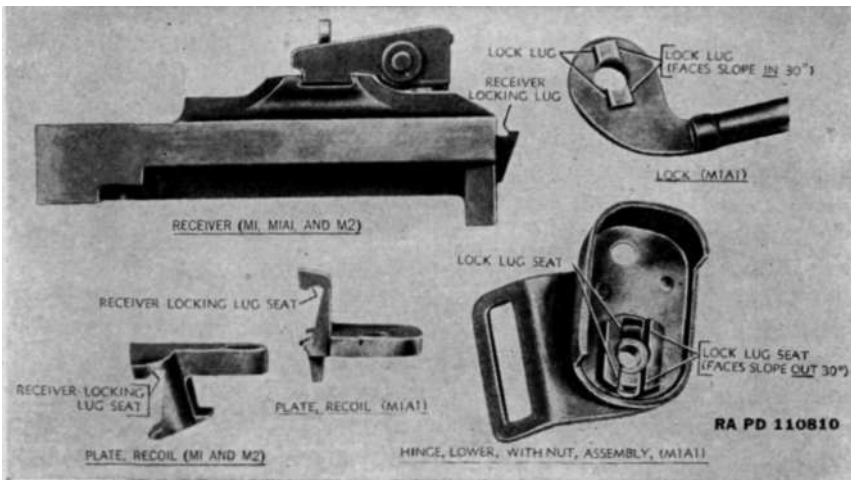

Figure 63. Important wearing surfaces.
(4) Inspect recoil plate cap for dents and fit with rear end of stock. Plate should lie flush at the edges with the stock and receiver.
(5) Inspect recoil plate for security and level seating on stock. Plate should seat level and firm on stock, held down by grip screw passing through plate and stock and into routed threads in grip. When assembled, the grip screw holds all three parts together. The hinge screw, when assembled and threaded into the nut, binds the parts still tighter, and prevents the grip from twisting.
(6) Inspect receiver locking lug seat in recoil plate for wear and burrs. (See fig. 63.) When assembling, the locking lug on receiver should cam smoothly into the seat, and be held there snugly without play or shake.
(7) Inspect grip screw for length and burred threads. Replace the $2\frac{3}{32}$ -inch hinge screw by a $2\frac{3}{4}$ -inch screw. If screw has not been replaced, deepen grip screw hole to a total depth of 1.125 inches with a No. 21 drill (diameter 0.159 inch). Inspect routed threads in grip for wear and stripping. Screw should turn in snugly to retain recoil plate and grip. If screw is loose, routed threads will eventually strip out and grip twist loose.
(8) Inspect grip spring washer for deformation. Spacer should fit in hole in lock on lower bar, when assembled.
(9) Inspect hinge screw spacer for deformation. Spacer should fit in hole in lock on lower bar, when assembled.
(10) Inspect locking nut for looseness in lower hinge shell. Inspect shell for deformation. Inspect sling eyelet for looseness on hinge shell.
(See fig. 63.) (Nut is staked or spot-welded in shell, and eyelet spot-welded to shell.) Check locking slot in nut for wear and burrs (angle of slot face is 30°). Inspect lower hinge screw for wear and inspect threads in grip for stripping.